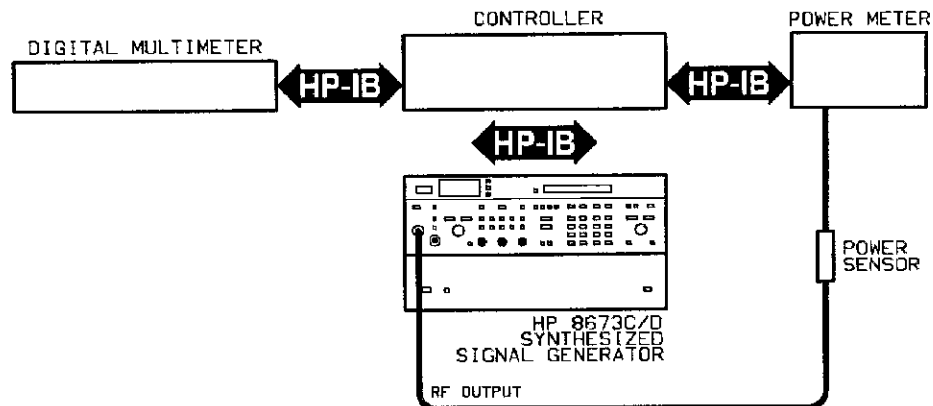

Figure 5-40. Flatness and ALC Adjustment Test Setup
3. Connect the equipment as shown in figure 5-40.